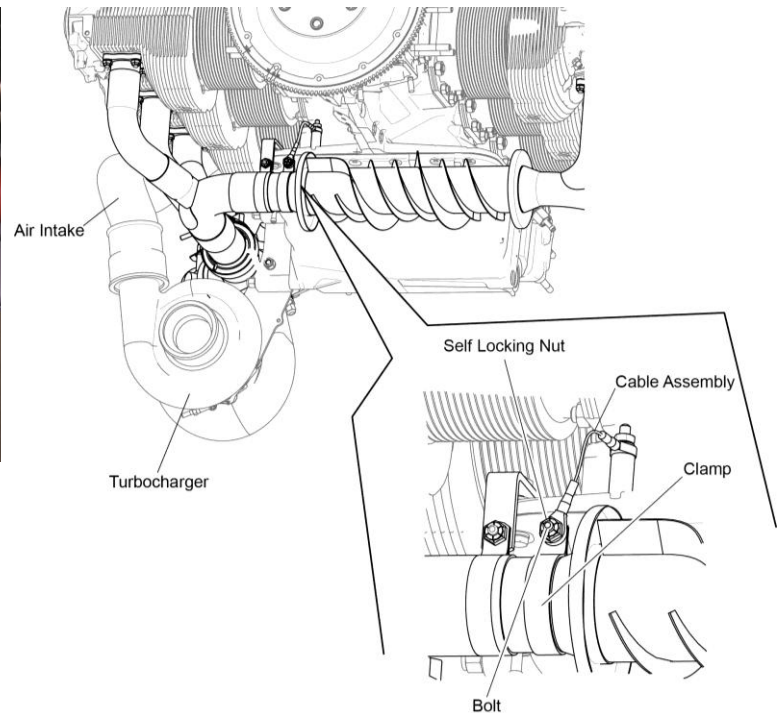

Figure 5
5. Remove the bolt and self-locking nut from the exhaust system end of the cable assembly (Figure 5). Discard the self-locking nut.
21. Install the exhaust system end of the cable assembly (Figure 5) with a bolt and new self-locking nut. Torque the nut to 96 in.-lb. (10.9 Nm).